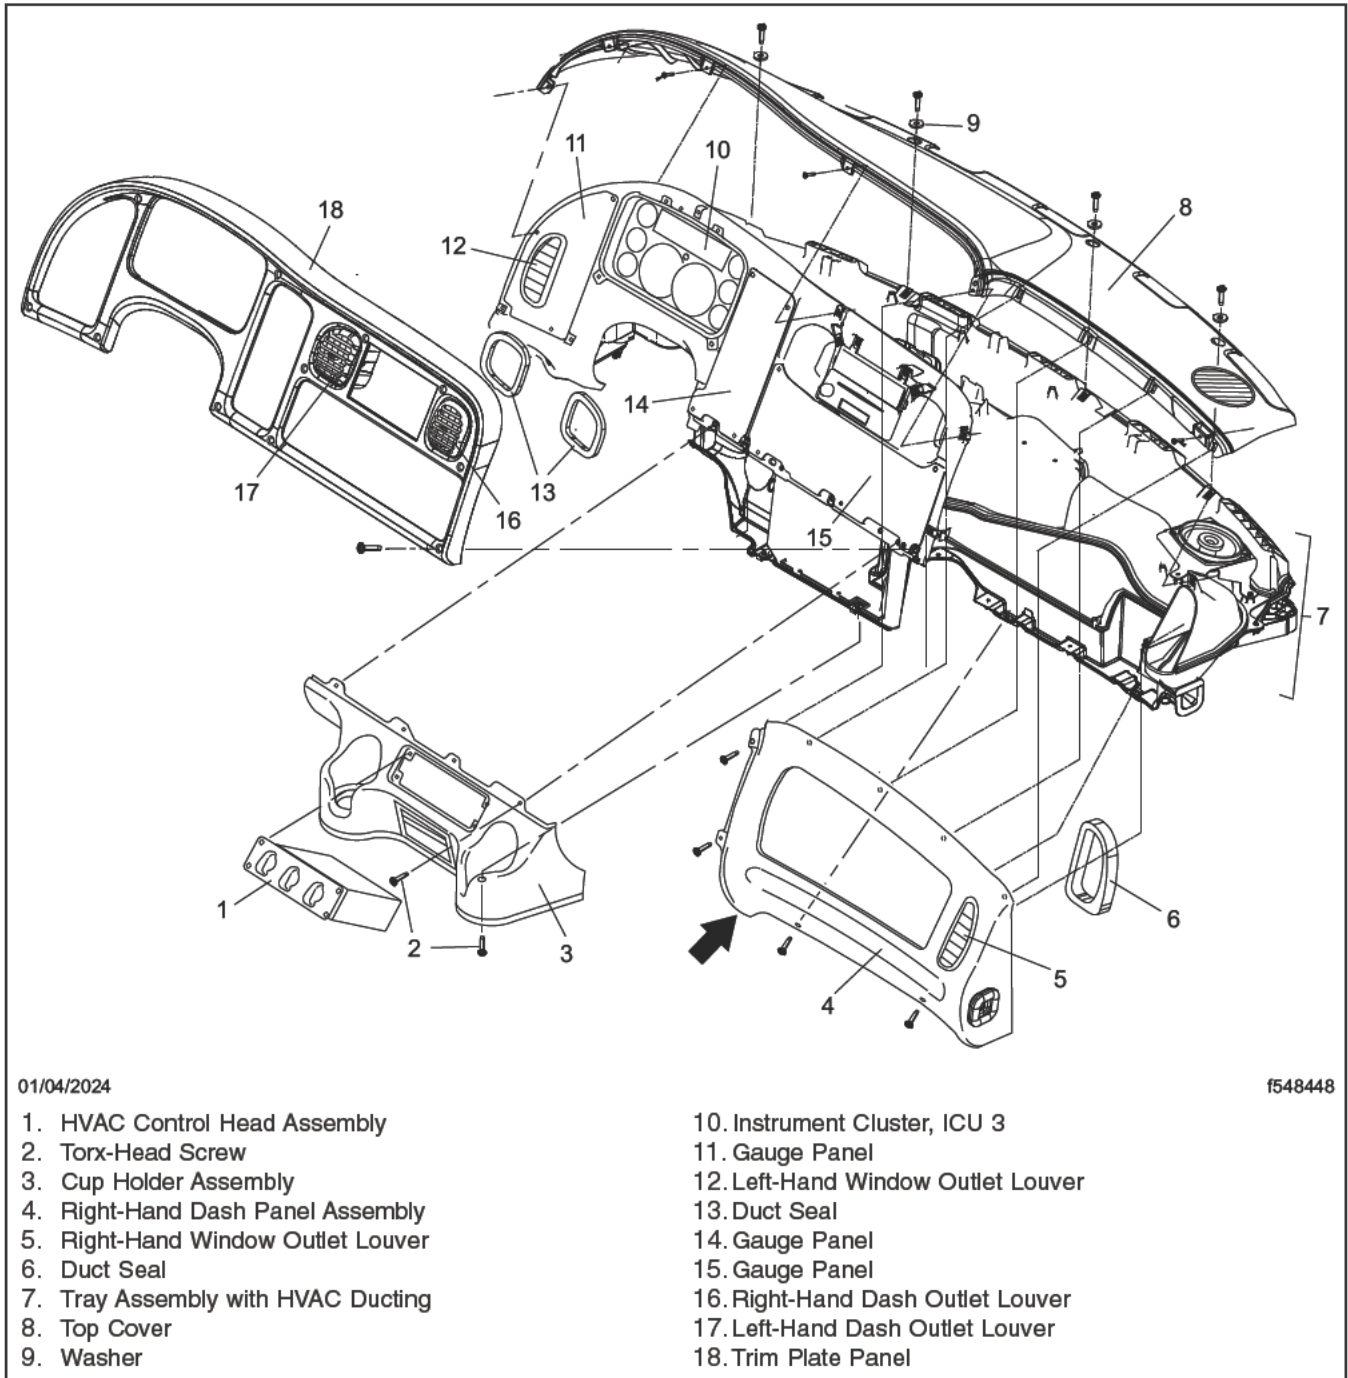

Fig. 1, Dash Components
- Remove the right-hand dash panel. See **Fig. 1**. For instructions, see **Group 60** of the applicable workshop manual.